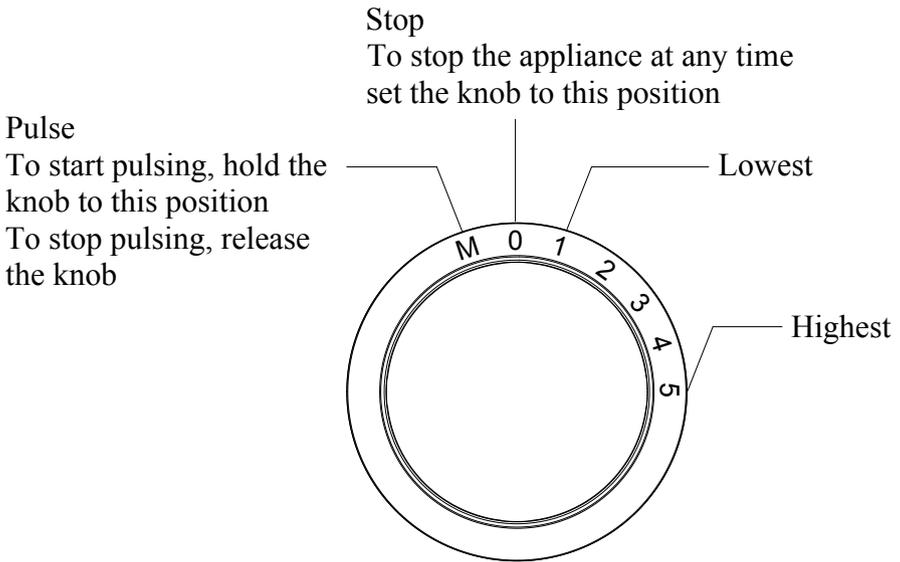

Fig. 2
- 6. Ensure the **Speed Selector** to “0” Position, then plug into power outlet and set **Speed Selector** to your desired setting. You can set **Speed Selector** to the “M” position if want to accelerate the process of blending. The detailed information is shown in below fig. 2